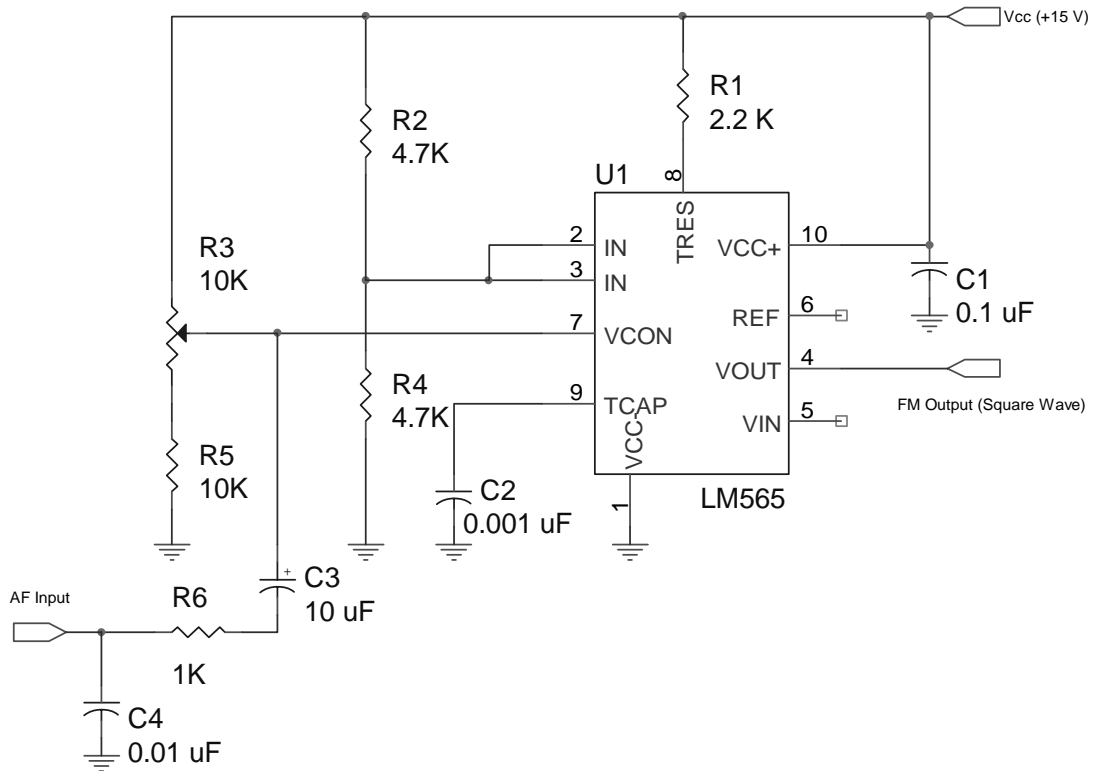

Figure 1: FM Modulator Employing the LM565
Figure 1 illustrates the FM modulator circuit. It's based on the LM565 phase-locked loop (PLL). Only the VCO section of the IC is used.
1. Build the circuit of Figure 1. Don't connect anything to the AF INPUT yet.
3. Calculate K_0 , the modulator sensitivity, by using equation (3).